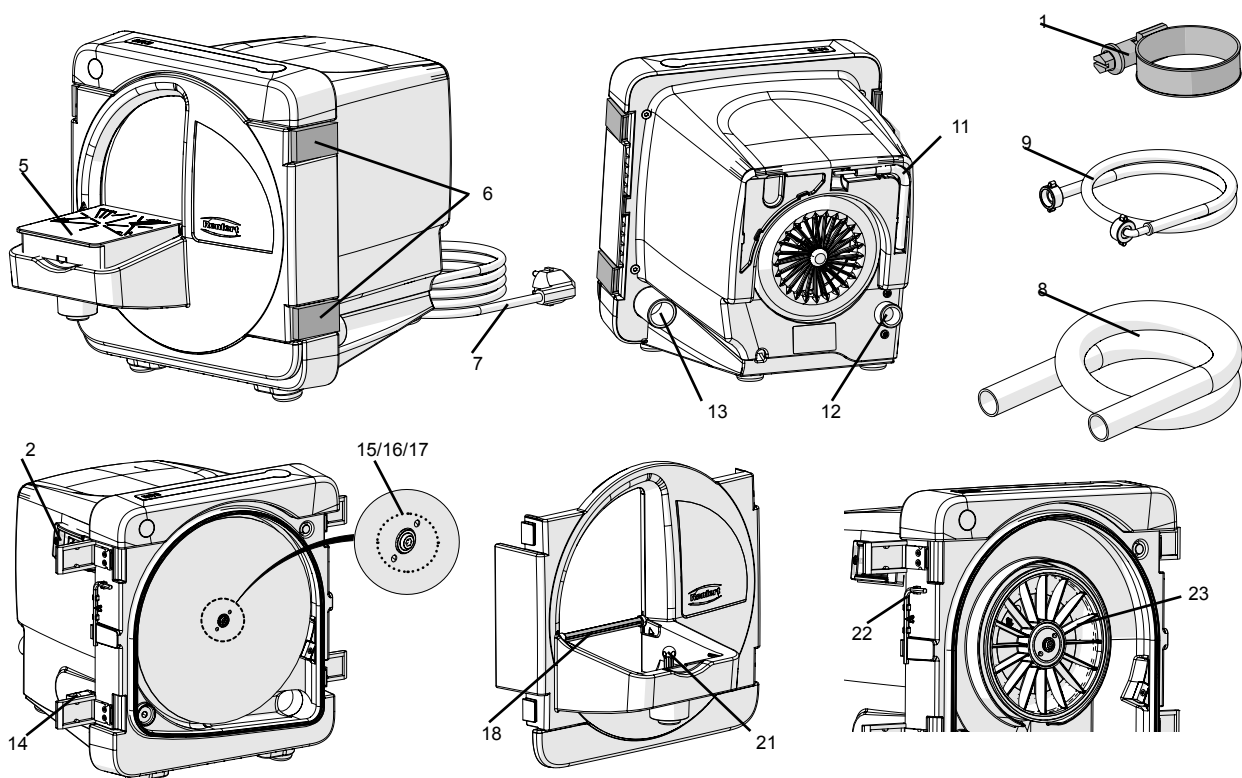

Fig. 1
- Plug in at the mains (7, Fig. 1, 2).
Switch the appliance on and off by the On/Off switch (2, Fig. 1).